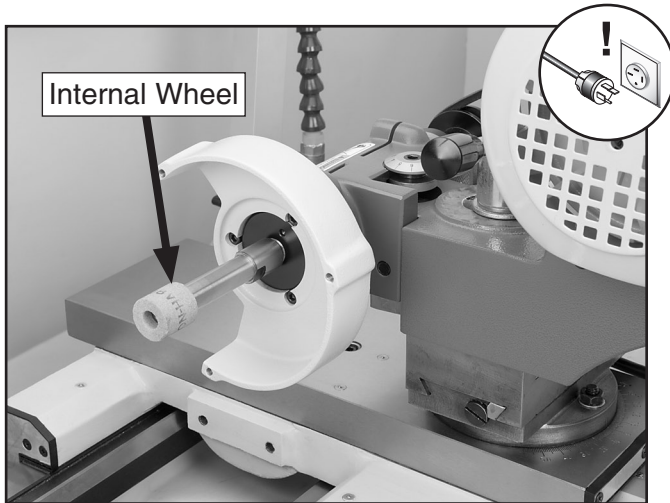

Figure 13. Internal grinding wheel installed.
4. Use a wrench on the flats of the right-hand spindle to keep it from turning, then fully tighten the internal wheel onto the left-hand spindle, as shown in **Figure 13**.